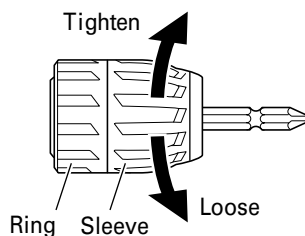

Fig. 9
- (1) After inserting a driver bit, etc. into the keyless drill chuck, firmly grasp the ring and tighten the sleeve by turning it toward the right (in the clockwise direction as viewed from the front) (See Fig. 9). If the sleeve becomes loose during operation, tighten it further. The tightening force becomes stronger when the sleeve is tightened additionally.
(2) Dismounting the bit